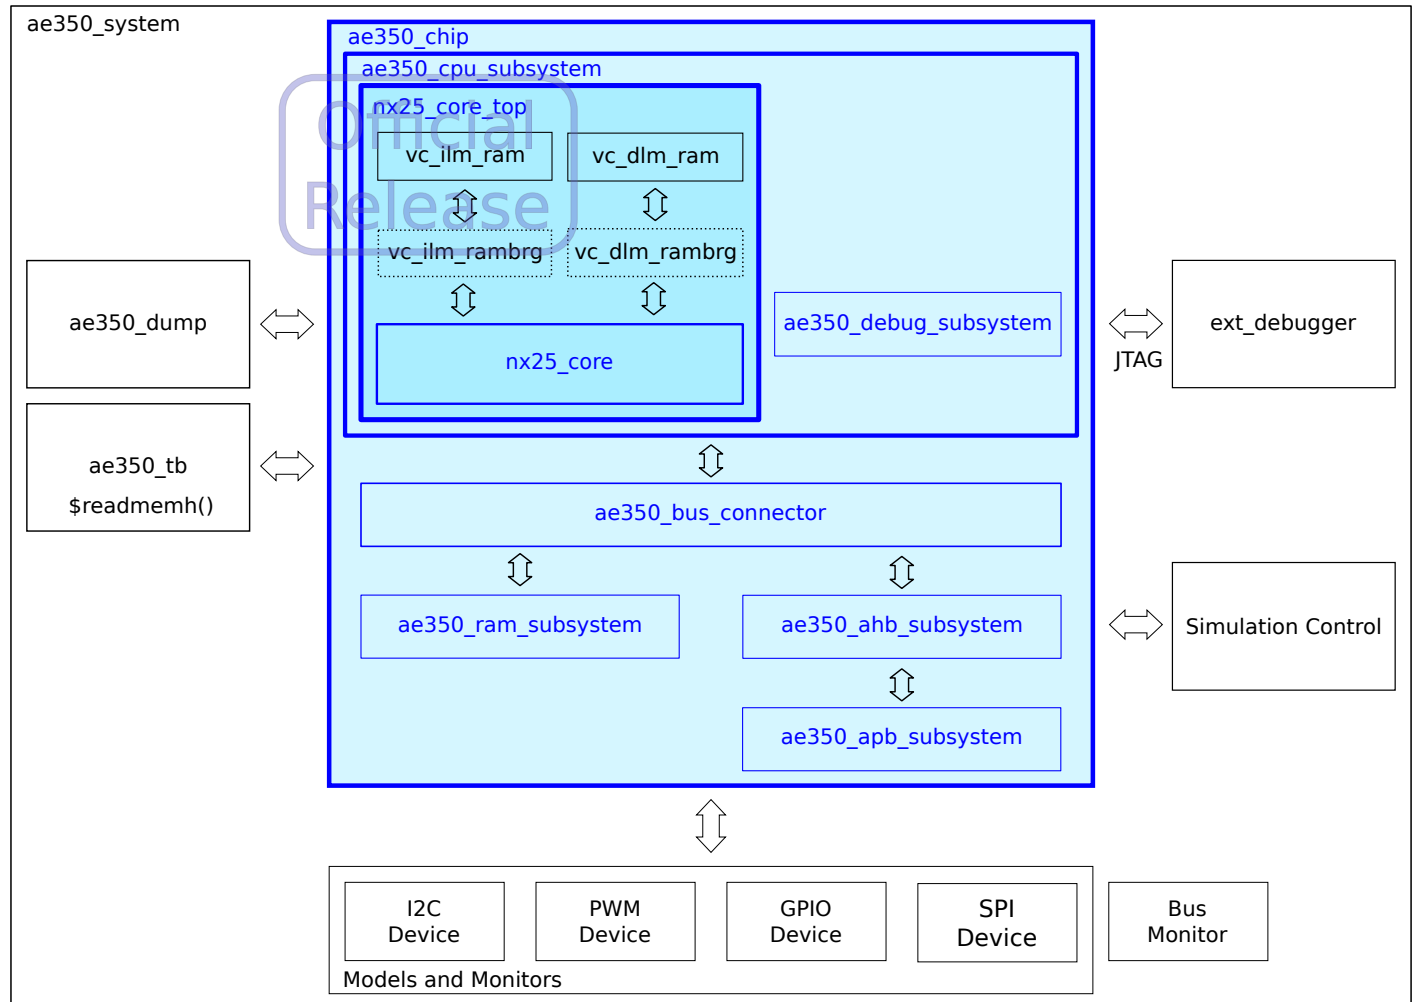

Figure 27: NX25(F) Simulation Environment
Figure 27 shows the block diagram of the NX25(F) simulation environment on the AE350 platform. The nx25_core module in the block diagram is the NX25(F) core. The ae350_tb module provides the clock sources and the reset sequences. It also loads the ROM image (NDSROM.dat) of the test case to ILM, ae350_ram_subsystem and the SPI device. The simulation control module (ahb_sim_control) is connected to ae350_bus_connector and is responsible mainly for the termination of simulations. The ae350_dump module controls the waveform dumping. The ext_debugger module simulates external debugger activities and interfaces with the RISC-V debug subsystem within the ae350_chip module.